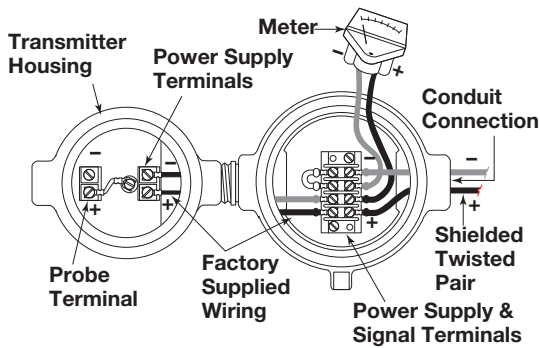

Figure 6
4. Connect the positive supply wire to the (+) terminal and the negative supply wire to the (-) terminal. Connect the shield to the green ground screw at the base of the housing. Make the shield wire as short as possible. Refer to Figure 6.